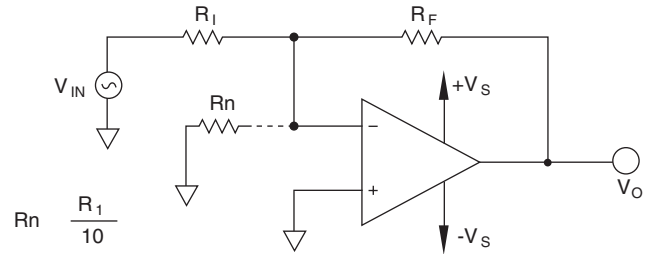

FIGURE 20. LOOP CHECK CIRCUIT
† See Figure 20 for loop check circuit.
*Loop check (Figure 20) will stop oscillation if $R_n \ll |Z_{cf}|$ at UGBW